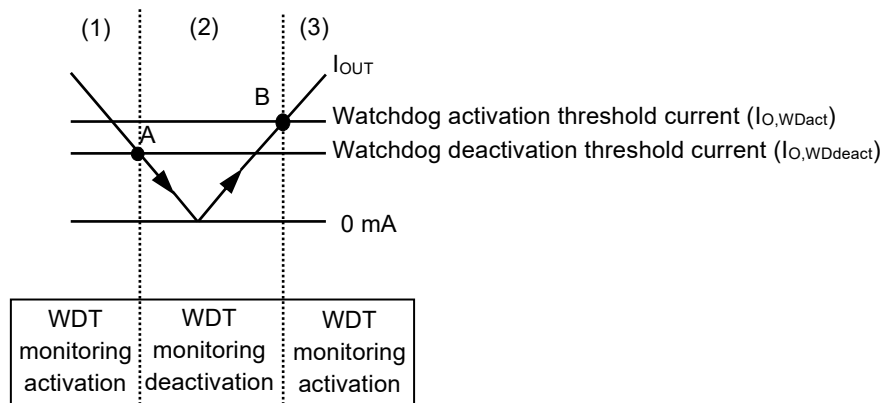

**Figure 44 Operation of Output Current Detection Circuit**
**Figure 44** shows a block diagram which includes an output current detection circuit. If the regulator is connected to a microcontroller, the microcontroller operation current can be detected using the regulator output current. For example, if the microcontroller sleep operation current is lower than the watchdog deactivation threshold current ( $I_{O,WDdeact}$ ), the watchdog timer autonomously deactivates monitoring operation when the microcontroller sleeps. If the VIN pin voltage drops below the output current detection circuit minimum operation voltage, the output current detection circuit stops the operation. Refer to "■ Recommended Operation Conditions" for VIN pin voltage range.